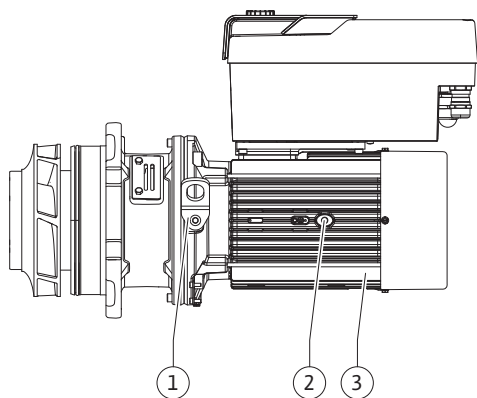

Fig. 100: Motor impeller unit
9. Remove the motor impeller unit (Fig. 100) from the pump housing by loosening the flange screws (Fig. I, Item 29).
16. Insert the motor impeller unit (see Fig. 100) into the pump housing in the old or other desired angular position. Observe permitted installation positions of the components (see section "Permitted installation positions and change of the arrangement of components before installation" [▶ 124]).